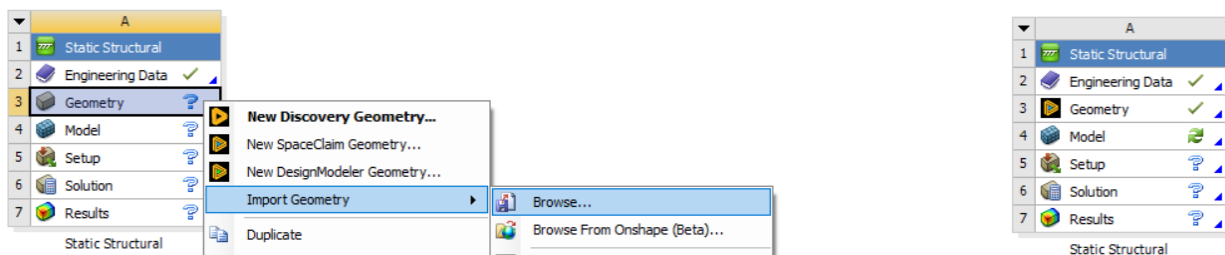

Fig. 1.2: Importing of geometry
- RMB—Geometry → Import Geometry → Browse... → valve_body_demo.scdoc → Open as shown in figure 1.2